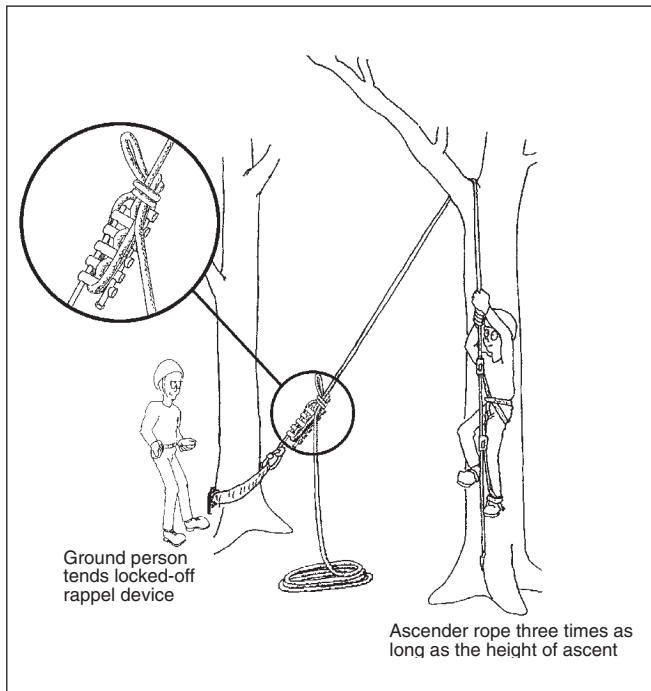

Figure 5j—The single-rope lowering system used with ascenders.
- E. The single-rope technique is used for long ascents. When using the single-rope technique with mechanical ascenders, one end of the rope is anchored around the tree or, preferably, a neighboring tree. Attach the standing part of the ascender rope to a securely anchored lowering device, such as a rappel rack or a rescue-8 descender. Tie off the lowering device securely. If the lowering device becomes untied or the anchor fails, the entire system will fail. This system allows the ground person to lower you quickly in case of emergency (figure 5j).